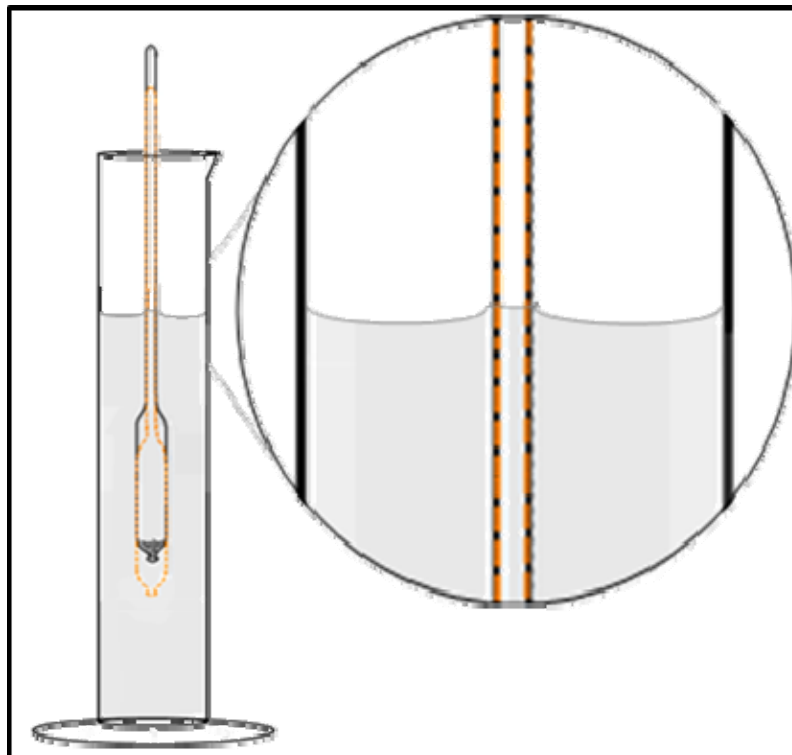

Figure 13: Correct movement of Hydrometer
13. If the *meniscus* remains unchanged as the *hydrometer* rise and falls, then the *hydrometer* and liquid surface are clean and a reading can be taken (Figure 13).